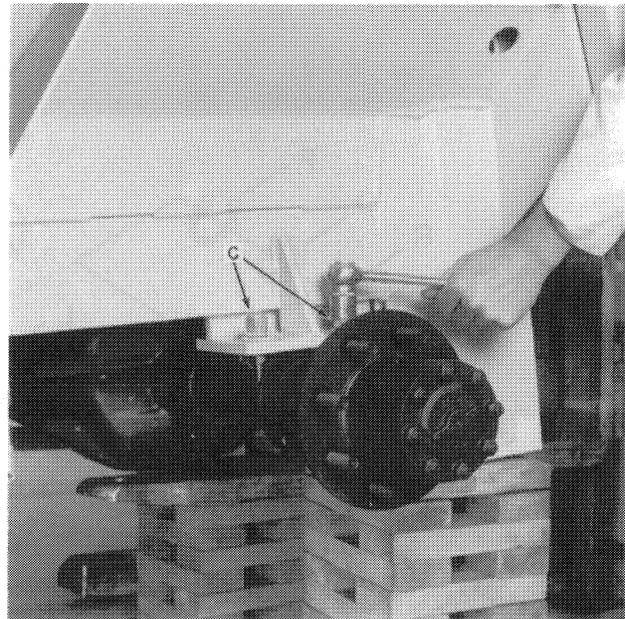

FIGURE 1-8
1. Raise the rear of the machine either with the stabilizers or a jack. Block up securely as shown in Figure 1-8.
5. Remove the nuts from the rear axle U-bolts, Figure 1-8. Move the rear axle rearward far enough to have space to pull off the brake disc with the calipers.